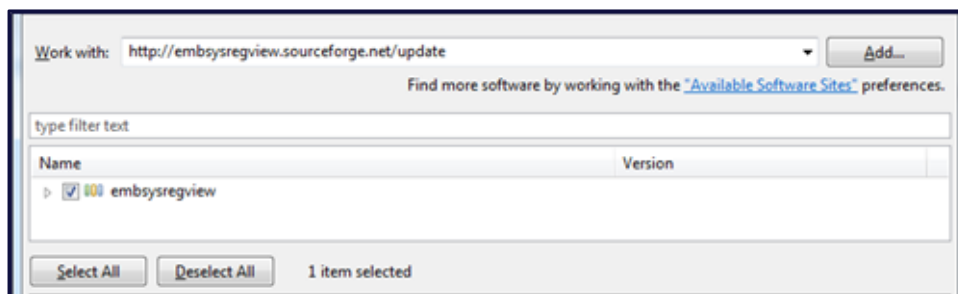

Figure 8: Installing embsysregview
- Select and install **embsysregview** (Figure 8).